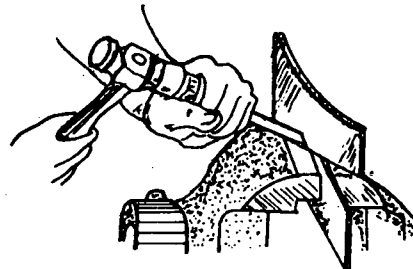

Fig. 13
3. When cutting sheet-metal, proceed as shown in Figure 13.